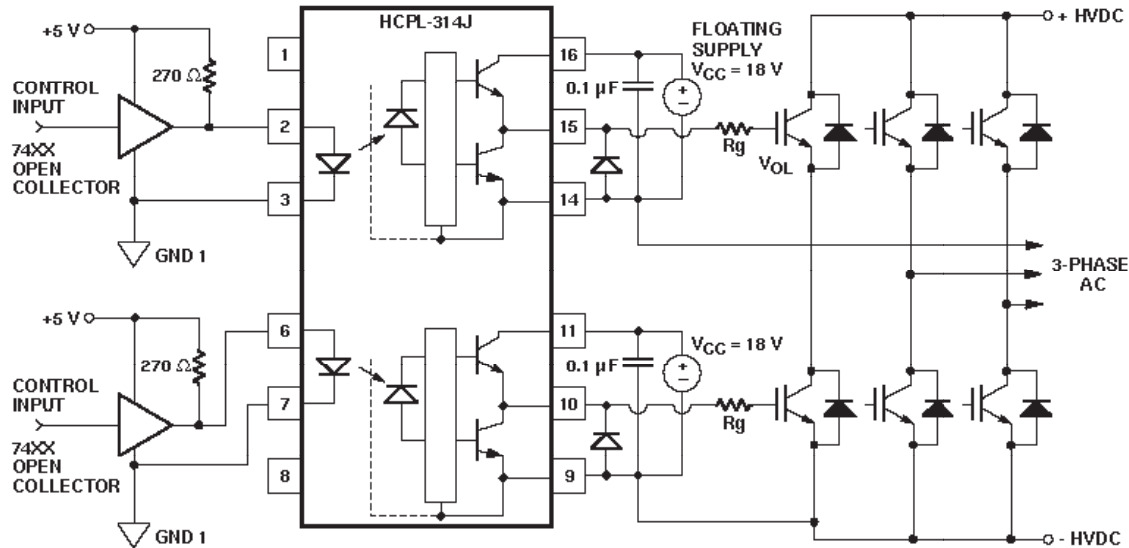
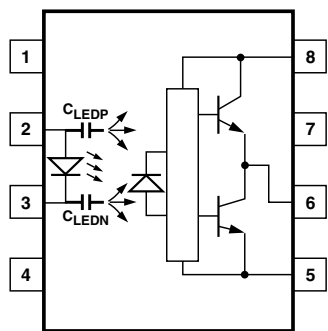
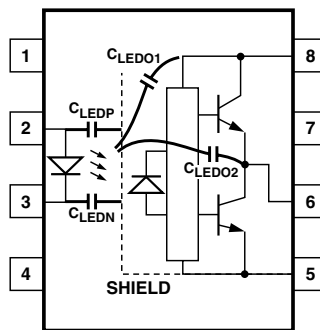
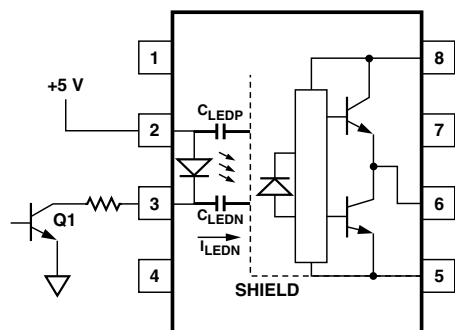

Figure 19. Recommended LED Drive and Application Circuit for HCPL-314J.
Figure 21. Optocoupler Input to Output Capacitance Model for Unshielded Optocouplers.
Figure 22. Optocoupler Input to Output Capacitance Model for Shielded Optocouplers.
Figure 24. Not Recommended Open Collector Drive Circuit.
To keep the IGBT firmly off, the HCPL-314J has a very low maximum V_{OL} specification of 1.0 V. Minimizing R_g and the lead inductance from the HCPL-314J to the IGBT gate and emitter (possibly by mounting the HCPL-314J on a small PC board directly above the IGBT) can eliminate the need for negative IGBT gate drive in many applications as shown in Figure 19. Care should be taken with such a PC board design to avoid routing the IGBT collector or emitter traces close to the HCPL-314J input as this can
result in unwanted coupling of transient signals into the input of HCPL-314J and degrade performance. (If the IGBT drain must be routed near the HCPL-314J input, then the LED should be reverse biased when in the off state, to prevent the transient signals coupled from the IGBT drain from turning on the HCPL-314J.) An external clamp diode may be connected between pins 14 & 15 and pins 9 & 10 (as shown in Figure 19) for the protection of HCPL-314J in the case of IGBTs switching inductive load.
Step 1: Calculate R_g minimum from the I_{OL} peak specification. The IGBT and R_g in Figure 24 can be analyzed as a simple RC circuit with a voltage supplied by the HCPL-314J.
where $K_{ICC} \cdot Q_g \cdot f$ is the increase in I_{CC} due to switching and K_{ICC} is a constant of 0.001 mA/(nC·kHz). For the circuit in Figure 19 with I_F (worst case) = 10 mA, R_g = 32 Ω, Max Duty Cycle = 80%, Q_g = 100 nC, f = 20 kHz and T_{AMAX} = 85°C:
HCPL-J314 fig 22
Without a detector shield, the dominant cause of optocoupler CMR failure is capacitive coupling from the input side of the optocoupler, through the package, to the detector IC as shown in Figure 21. The HCPL-314J improves CMR performance by using a detector IC with an optically transparent Faraday shield, which diverts the capacitively coupled current away from the sensitive IC circuitry. However, this shield does not eliminate the capacitive coupling between the LED and optocoupler pins 5-8 as shown in Figure 22. This capacitive coupling causes perturbations in the LED current during common mode transients and becomes the major source of CMR failures for a shielded optocoupler. The main design objective of a high CMR LED drive circuit becomes keeping the LED in the proper state (on or off) during common mode transients. For example, the recommended application circuit (Figure 19), can achieve 10 kV/μs CMR while minimizing component complexity.
The open collector drive circuit, shown in Figure 24, can not keep the LED off during a $+dV_{CM}/dt$ transient, since all the current flowing through C_{LEDN} must be supplied by the LED, and it is not recommended for applications requiring ultra high CMR_1 performance. The alternative drive circuit which like the recommended application circuit (Figure 19), does achieve ultra high CMR performance by shunting the LED in the off state.